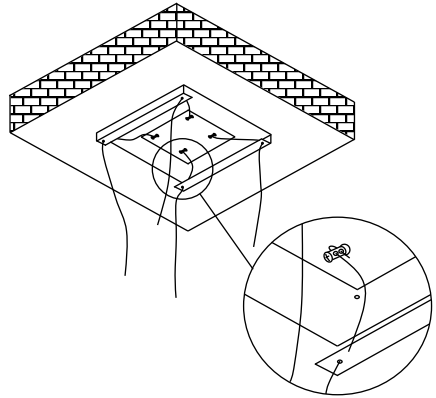

Fig 5
3. Thread the strings through the 4 holes in the ceiling bracket (Fig 5).